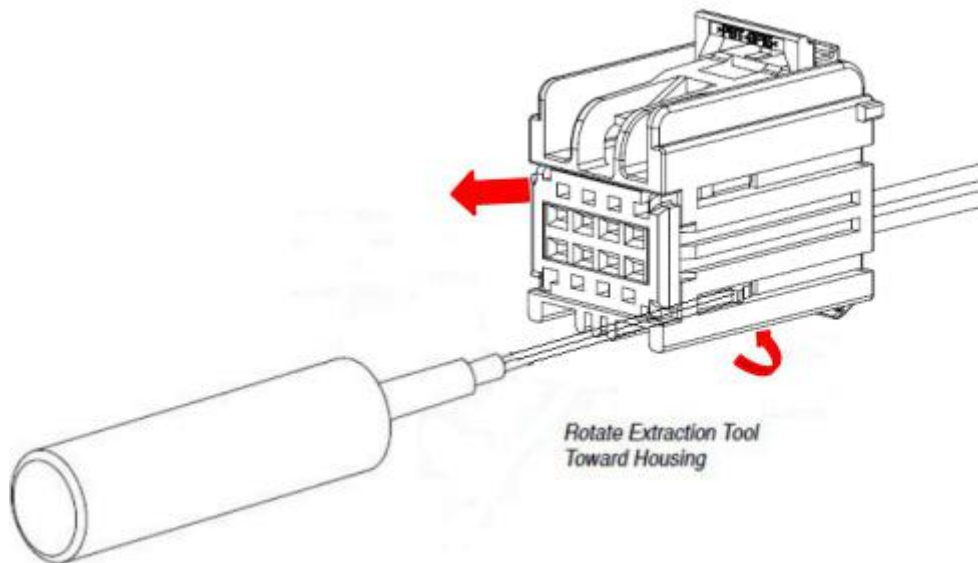

Fig 11.
- (1) To disengage the TPA, insert Extraction Tool 3--1579007--6 in the side of the plug connector housing cutout on the TPA. Press the extraction tool toward the front of the connector to disengage the TPA. See Fig11 .